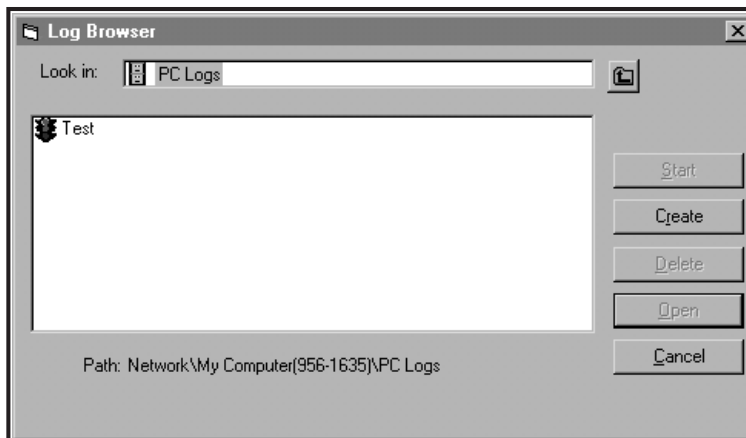

Figure 16: Create a PC Log
3. Double click on *PC Logs* to advance to the dialog box shown in Figure 16.
4. At the dialog box shown in Figure 16, click on the [Create] option button to create a new meter log.